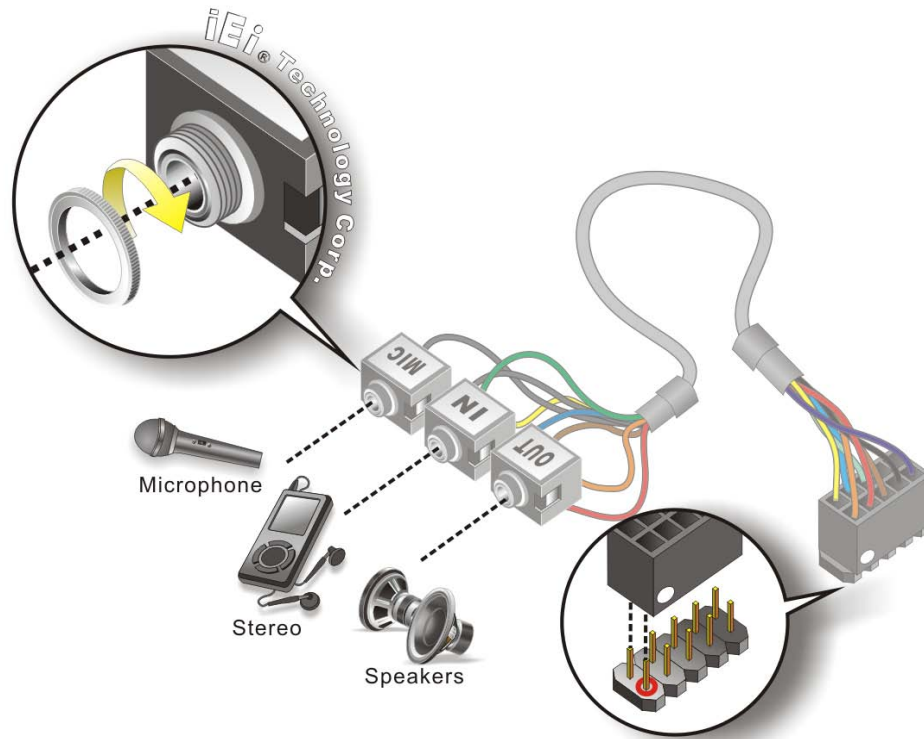

Figure 4-16: Audio Kit Cable Connection
Step 2: **Insert the cable connector.** Insert the connector into the serial port box header. See Figure 4-16. A key on the front of the cable connectors ensures the connector can only be installed in one direction.